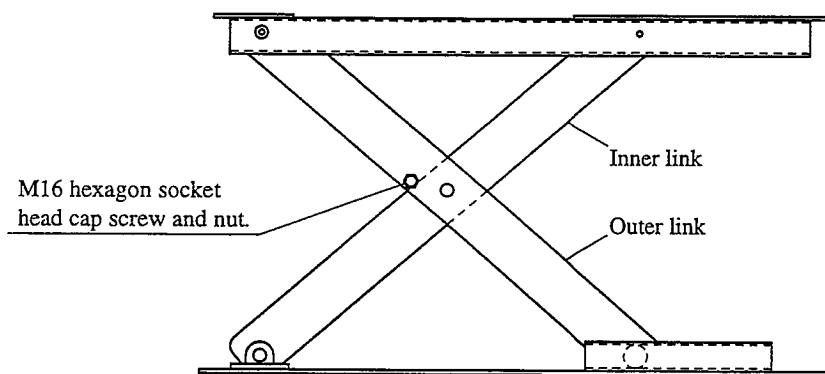

Fig. 6.3
- (1) Lift or lower the table top, and stop it at the position where the hole of the outer link is on the inner link. (Refer to Fig. 6-3.)
- (2) Put a M16 hexagon socket head cap screw in the hole and hold it with a nut (to prevent the link from falling).